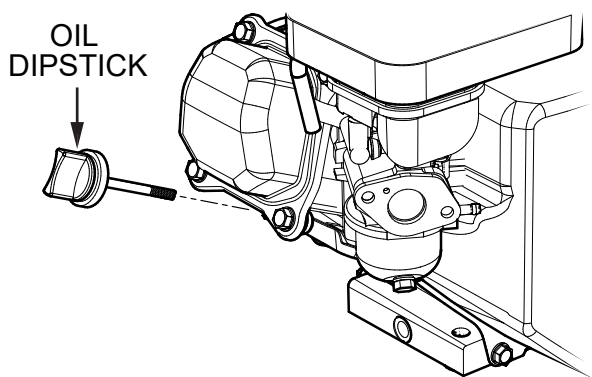

Figure 5. Engine Oil Dipstick
2. Remove the filler dipstick from the engine oil filler hole (See Figure 5) and wipe clean.